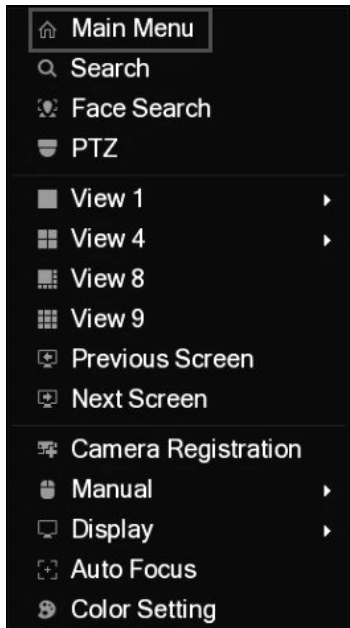

Figure 4-1
The shortcut menu (Figure 4-1) is displayed.
Step 1 In the live view screen interface, right-click anywhere on the screen. The shortcut menu is displayed. See Figure 4-1.